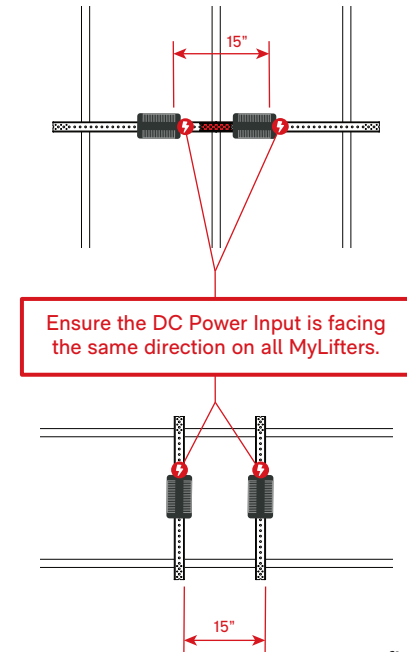

fig 3.6
14. Distance between the MyLifters on the Smart Track should match the 15" distance between the two pulleys on the Universal HD frame. This is key to proper MyLifter operation and ensures the cables will be as vertical as possible. Failure to follow this guideline can damage the MyLifter. (fig 3.6)
15. To install MyLifters on the Smart Track, align the holes on the MyLifter frame with the holes on the Smart Track. **NOTE: All MyLifters should be installed with the DC power input end of the MyLifter facing in the same direction.** This is imperative to ensure proper operation of the MyLifter(s). (fig 3.6)